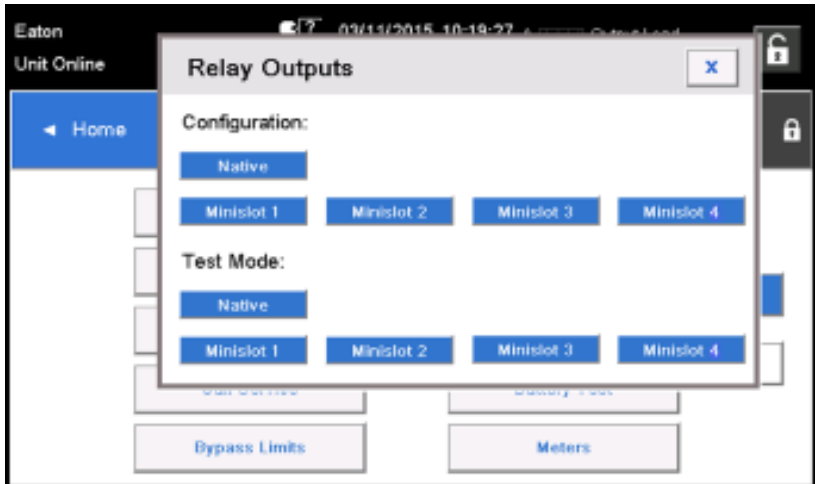

Figure 35: Options for relay outputs configuration
- You can test the relays by selecting any of the options in the test mode (see *Figure 35: Options for relay outputs configuration*).